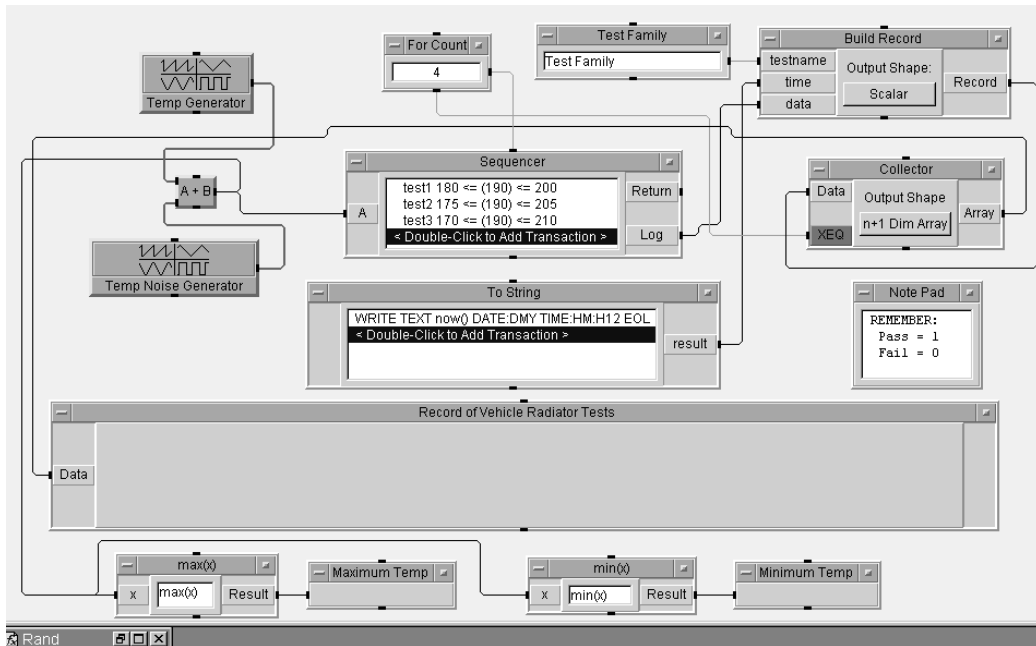

Figure 16.7. The completed LAB 16.3 before running
36. Arrange the objects similar to those in Figure 16.7.